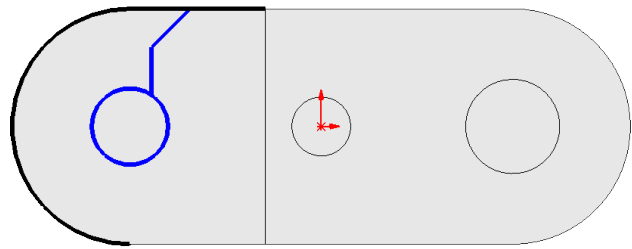

Fig. 29
Step 7. Click **Line**  (L) on the Sketch toolbar.
Step 8. Sketch **vertical line up from circle and chained line angled to right up to converted line**, Fig. 29. To sketch nontangent line, click circle and move cursor up very slightly.